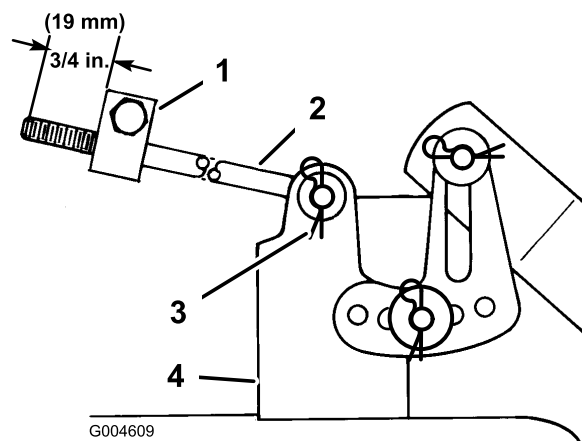

Figure 44
11. Measure the length of the rod extending out of the front of the adjusting block on the sides of the chassis (Figure 44). If the rod length is not 3/4 inch (19 mm), remove the hairpin cotter and washer from the end of the rod (Figure 44) and turn the rod until it extends out 3/4 inch (19 mm).